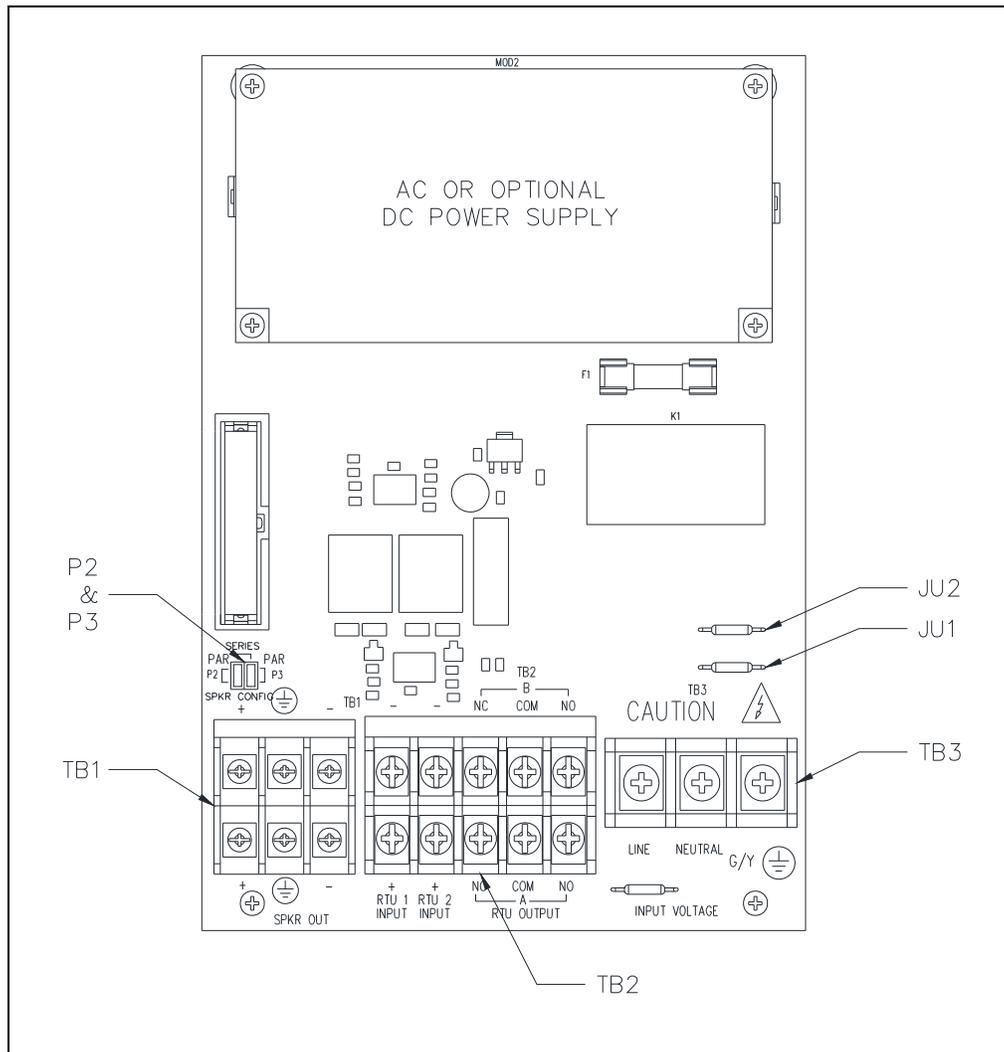
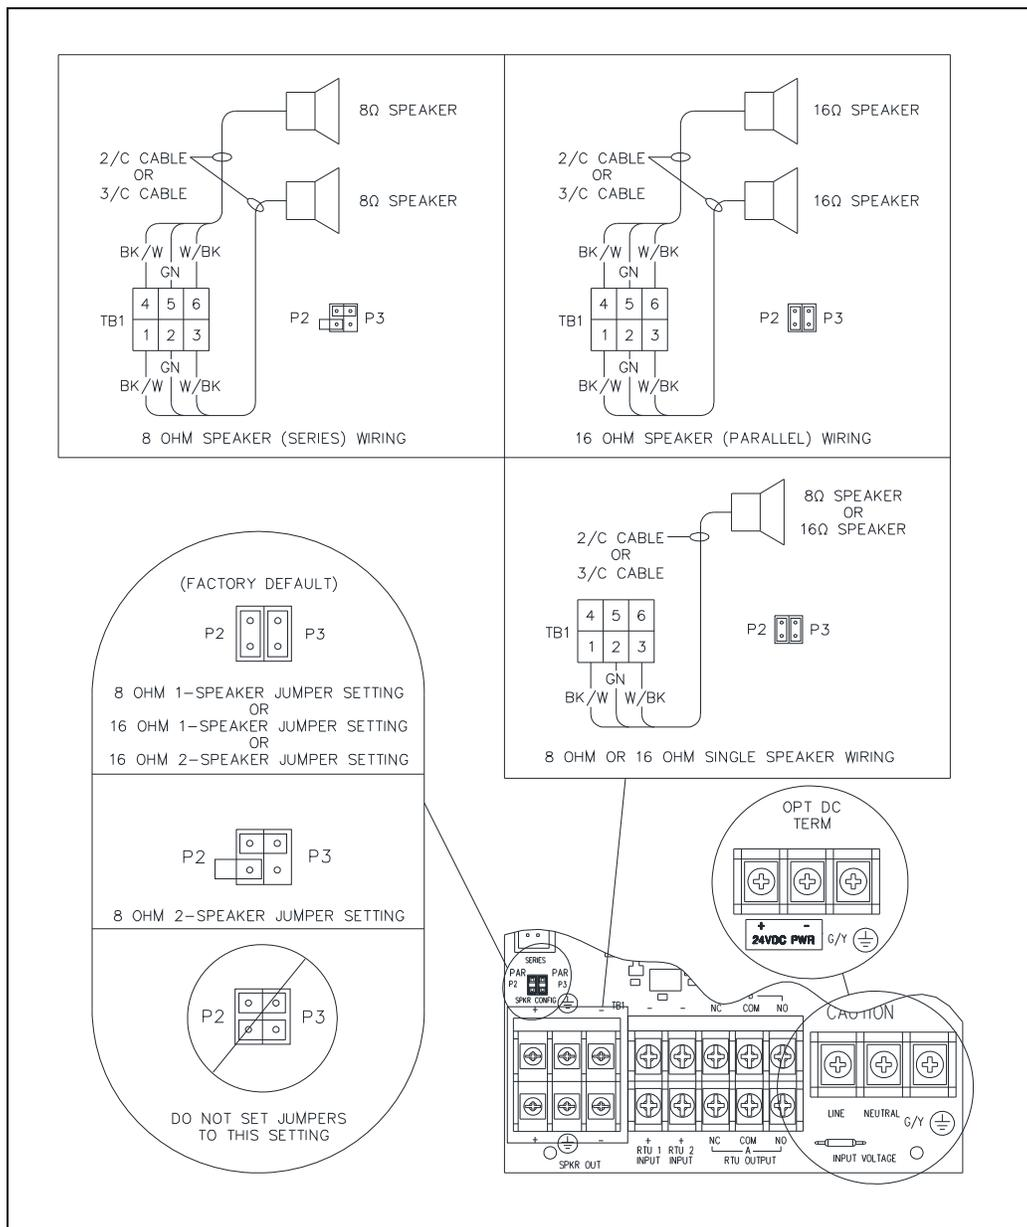
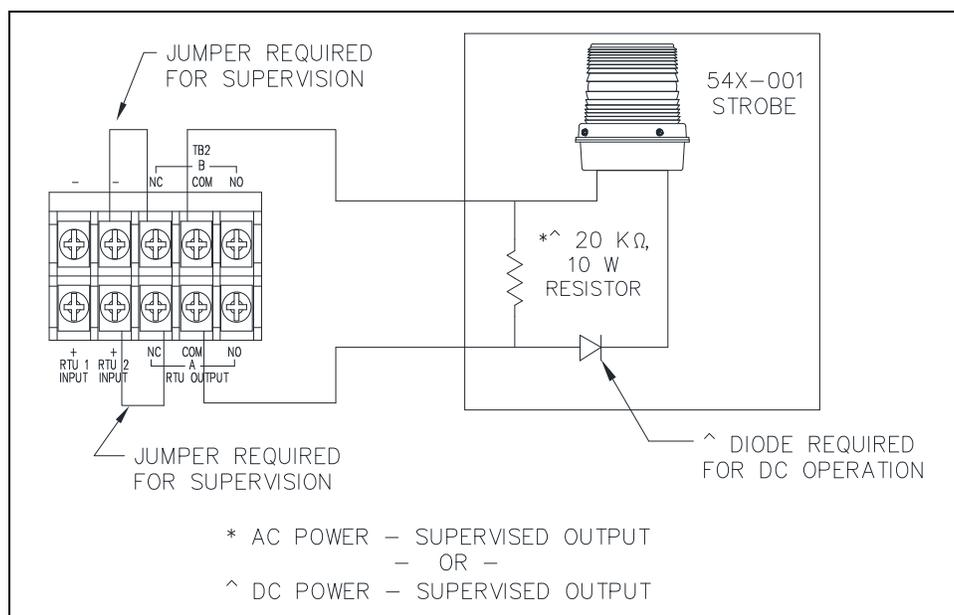

Figure 4. SP2 Standard Termination PCBA
Figure 5. 8/16-ohm Speaker Impedance Configuration and AC/DC Termination at TB3
Figure 7. Supervised Output Wiring—TB2
6. Configure the speaker jumpers; **P2** and **P3**, for the appropriate impedance for use with 8-ohm or 16-ohm speakers (see Figure 4 and Figure 5).
The termination PCBA contains two auxiliary RTU inputs. Terminate the inputs at terminal block TB2 (see Figure 4).
Two form C contacts are provided to power a beacon (see Figure 7). Terminate the outputs at terminal block TB2 (see Figure 4). Configure the outputs for dry contact use by removing jumpers JU1 and JU2.
5. Install a 20-kilohm 10-watt resistor across the terminals of the beacon cable (see Figure 7).
6. Install jumpers at terminal block TB2 as shown below to enable cable monitoring (see Figure 7).
The ac or optional dc power supply is on the termination PCBA. The termination PCBA includes terminal block TB3 for connecting the local power source to the station (see Figure 4):